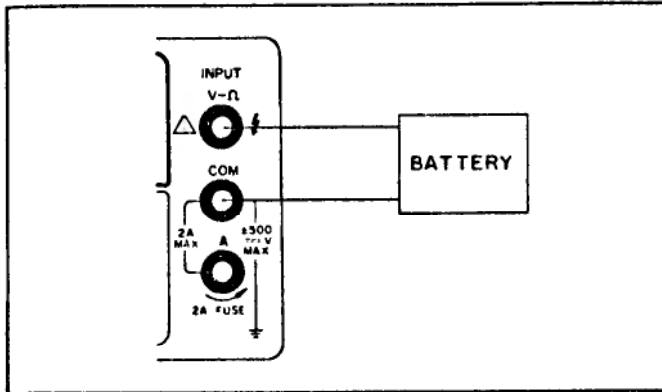

Figure 3-5. DC Voltage Measurements
- c. Connect test leads from the Multimeter $\text{V}\Omega$ (high) and COM (low) terminals to the voltage under test as shown in Figure 3-5.